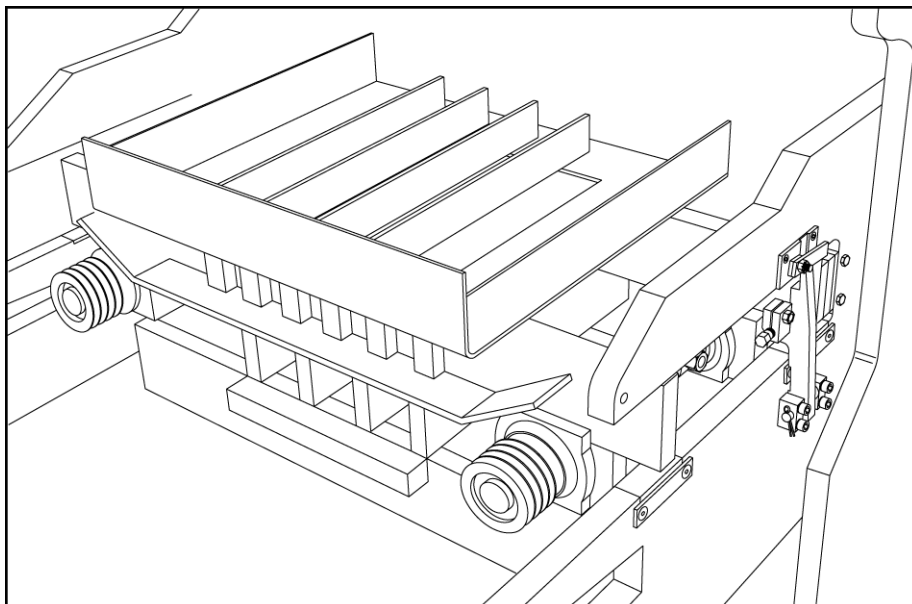

Figure 5.16 MOLD RESTING ON THE PALLET RECEIVER
- 5.4.29 Cycle machine to "first stop" position (feedbox all the way to the front), turn clutch switch off and stop drive motor. At this point the mold and pallet should be on the pallet receiver rubbers (see figure 5.16).